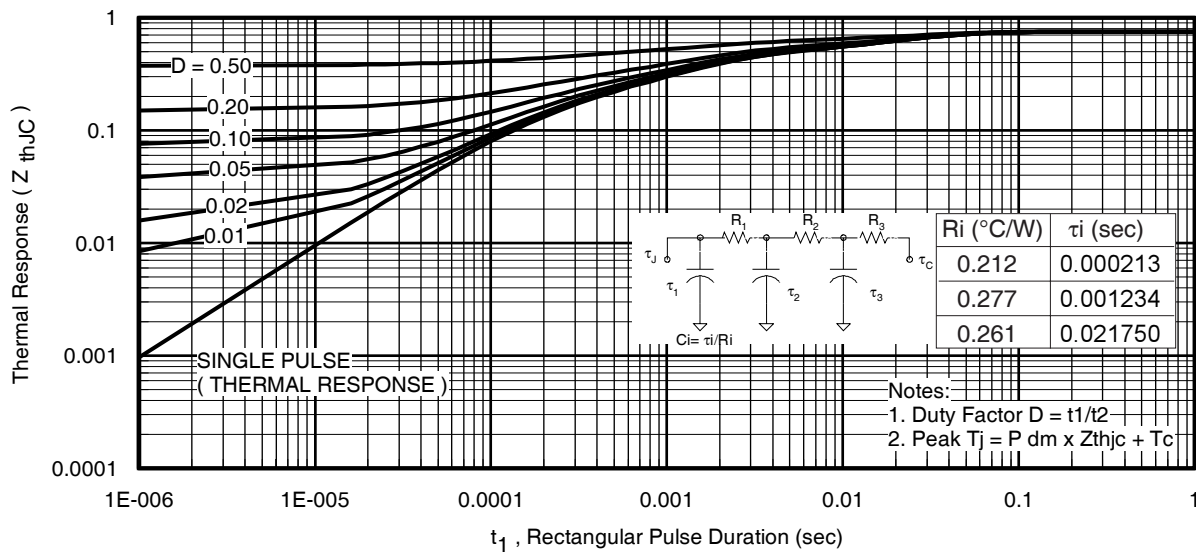
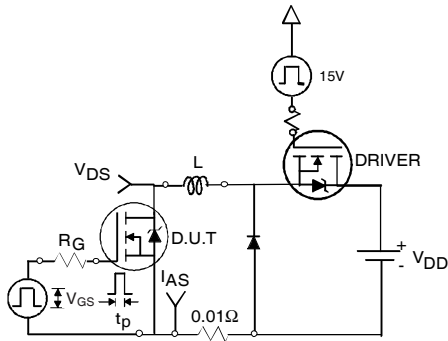

Fig 11. Maximum Effective Transient Thermal Impedance, Junction-to-Case
Fig 12a. Unclamped Inductive Test Circuit
- ① Repetitive rating; pulse width limited by max. junction temperature. (See fig. 11).
- ② Limited by T_{Jmax} , starting $T_J = 25^\circ\text{C}$, $L = 0.066\text{mH}$, $R_G = 25\Omega$, $I_{AS} = 75A$, $V_{GS} = 10V$. Part not recommended for use above this value.
- ③ Pulse width $\leq 1.0\text{ms}$; duty cycle $\leq 2\%$.
- ④ $C_{oss \text{ eff.}}$ is a fixed capacitance that gives the same charging time as C_{oss} while V_{DS} is rising from 0 to $80\% V_{DSS}$.
- ⑤ Limited by T_{Jmax} , see Fig.12a, 12b, 15, 16 for typical repetitive avalanche performance.
- ⑥ This value determined from sample failure population. 100% tested to this value in production.
- ⑦ This is only applied to TO-220AB package.
- ⑧ When mounted on 1" square PCB (FR-4 or G-10 Material). For recommended footprint and soldering techniques refer to application note #AN-994.
- ⑨ TO-220 device will have an R_{th} value of 0.65°C/W .
3. Equation below based on circuit and waveforms shown in Figures 12a, 12b.
$Z_{thJC}(D, t_{av})$ = Transient thermal resistance, see figure 11)